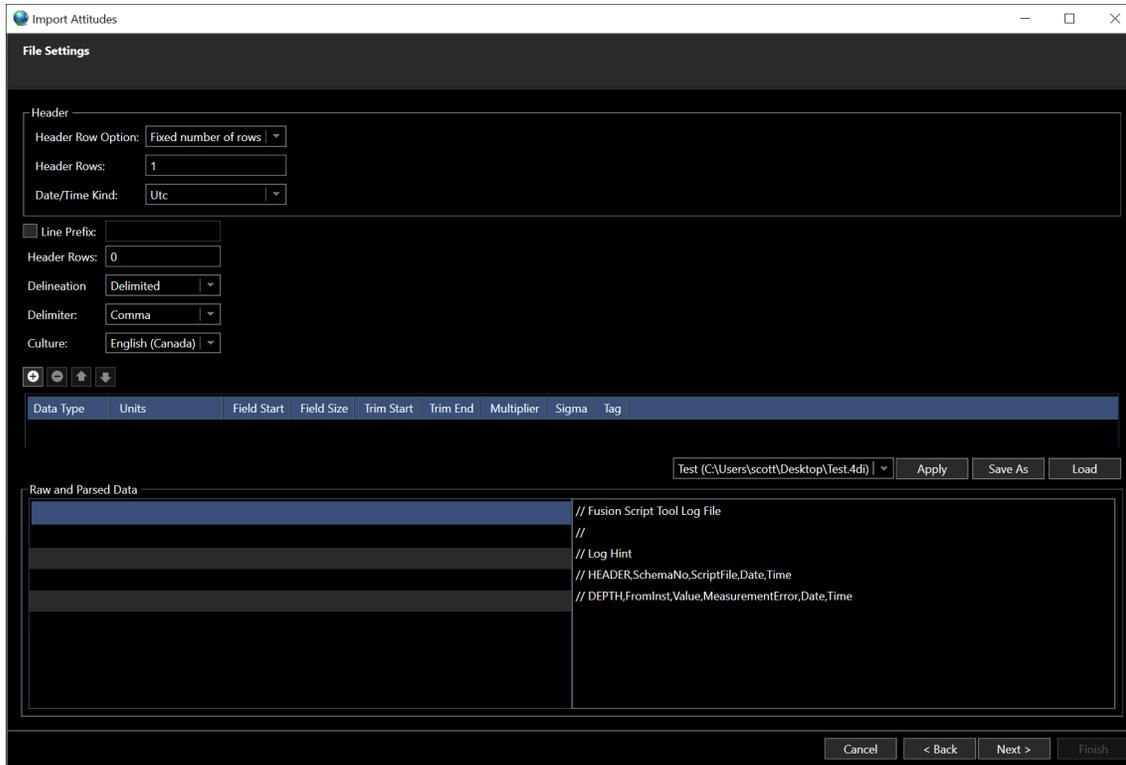

FIGURE 38 IMPORT ATTITUDES – FILE SETTINGS PAGE
5. Click Next to open File Settings Page, see Figure 38.